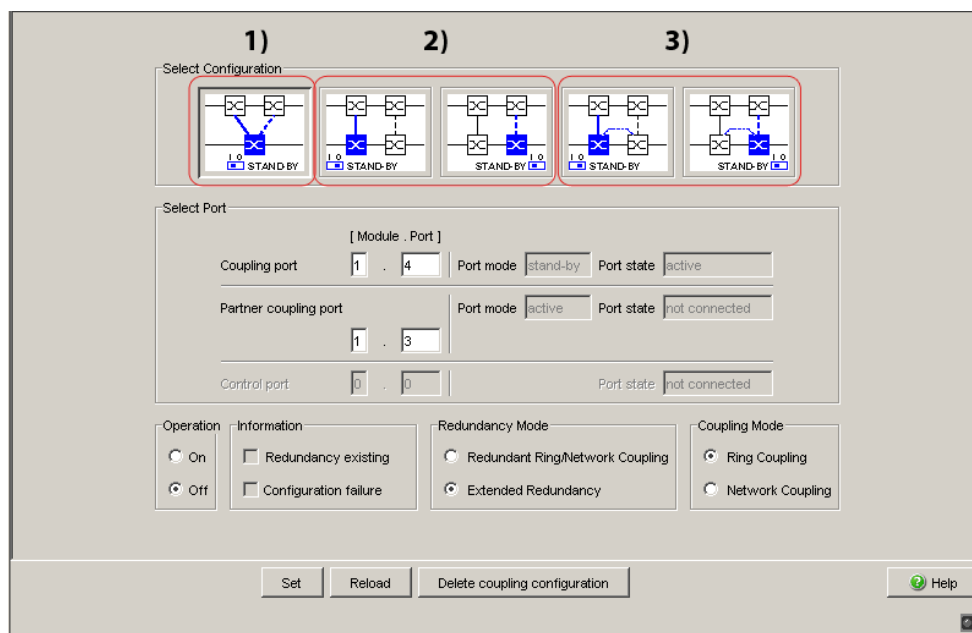

Figure 22: Selecting the configuration
- ☐ You first select the configuration you want: One-Switch coupling ("1"), two-Switch coupling ("2") or two-Switch coupling with control line ("3"), (see fig. 22).